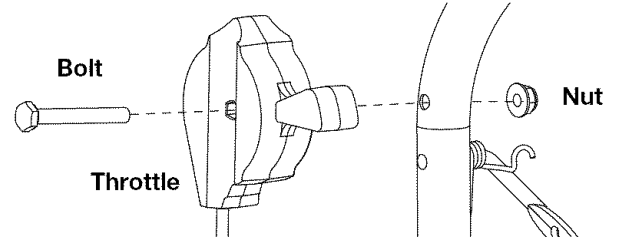

Fig. 4
11. Remove the nut and bolt from the throttle control (Fig. 4).
13. Insert the bolt thru the hole and thread the lock-nut onto it until hand tight. (Fig. 4).